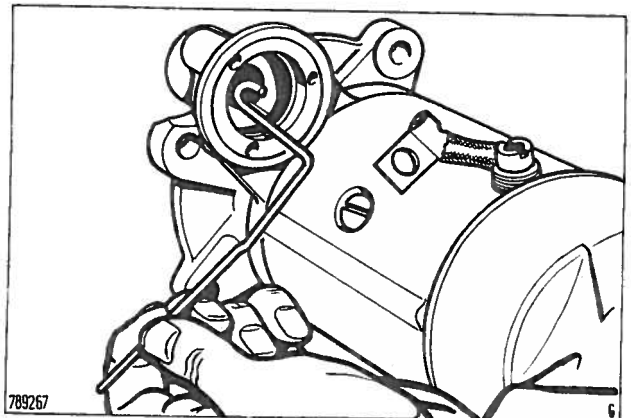
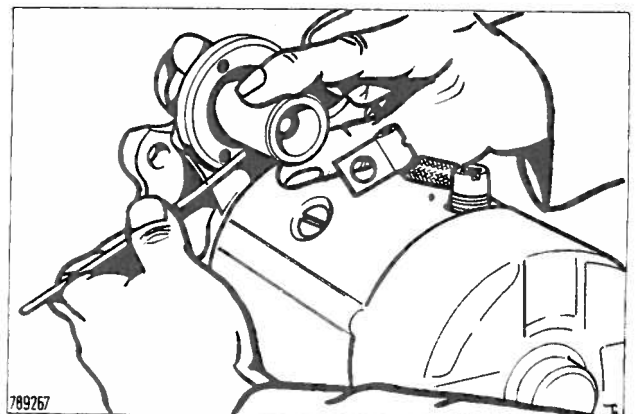

Fig. 96 Wire hook
Fig. 97 Holding drive engagement lever bush with wire hook
10. Make a wire hook as shown in Fig. 96 to hold the drive engagement lever bush whilst the solenoid plunger is pushed in and over the engagement lever Fig. 97.